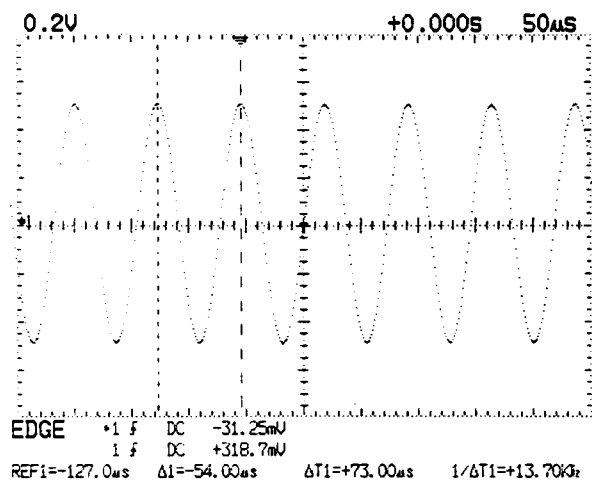

Fig. 6-45
(2) In case of time measurement cursors (T CURSORS) (See Fig. 6-45)